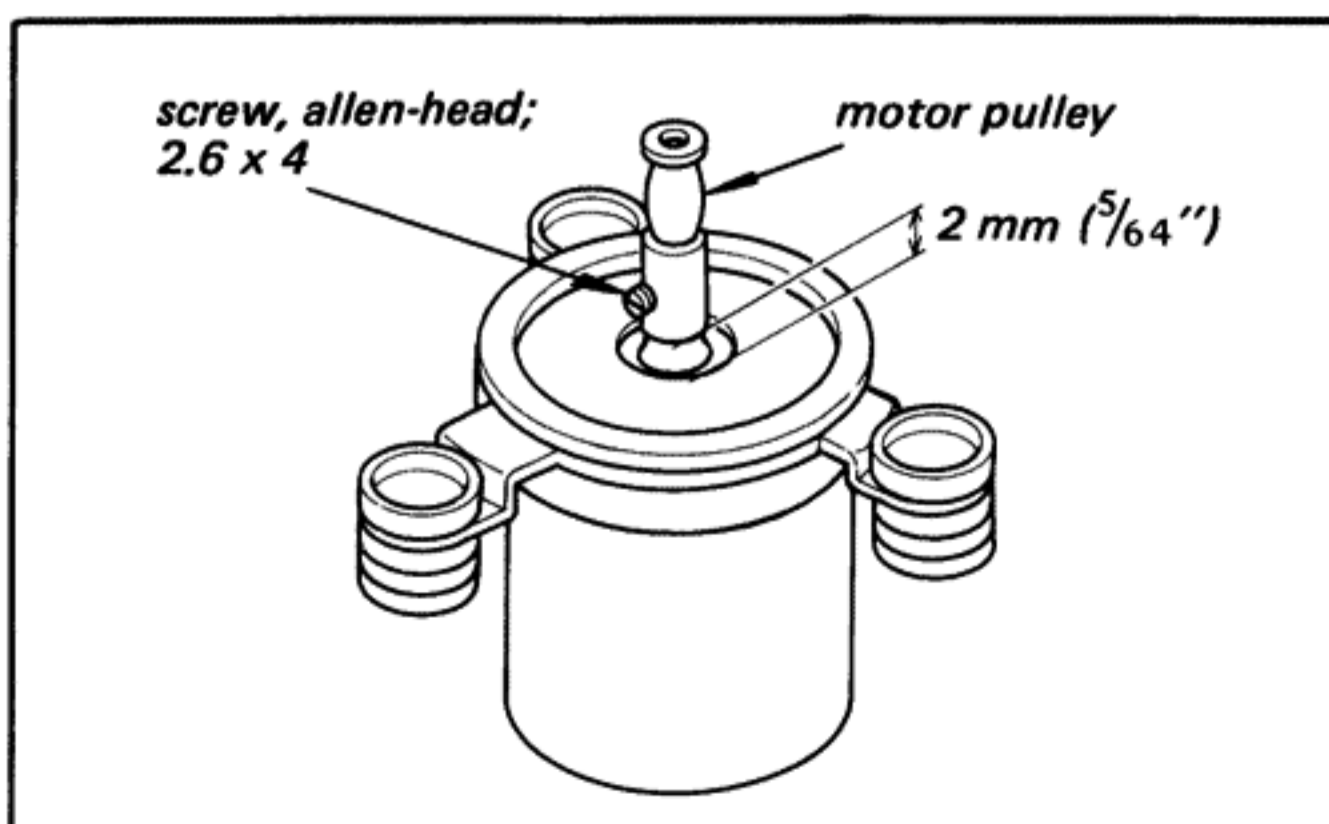

Fig. 2-7. Motor pulley replacement
4. Adjust the height of the motor pulley so that the bottom of the motor pulley is 2 mm ( $\frac{5}{64}$ "') higher than the top of the motor bracket as shown in Fig. 2-7 and tighten the set screw.